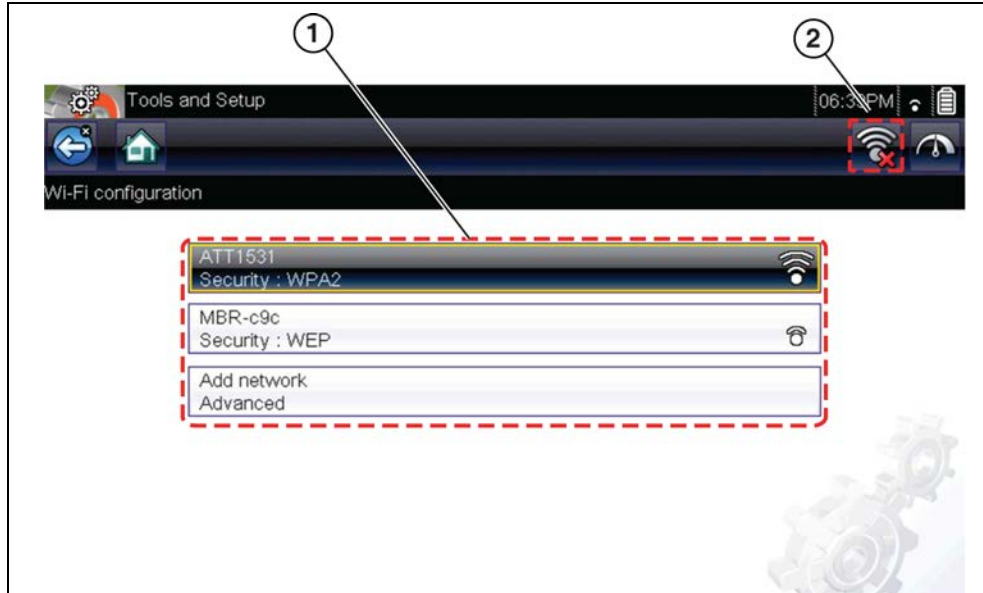

Figure 11-2 Wi-Fi Configuration Screen
3. The Wi-Fi icon will change to the Wi-Fi symbol with “x” mark (Figure 11-2), indicating Wi-Fi is on.
4. Select your network. Use the scroll feature to show all active connections (Figure 11-2).